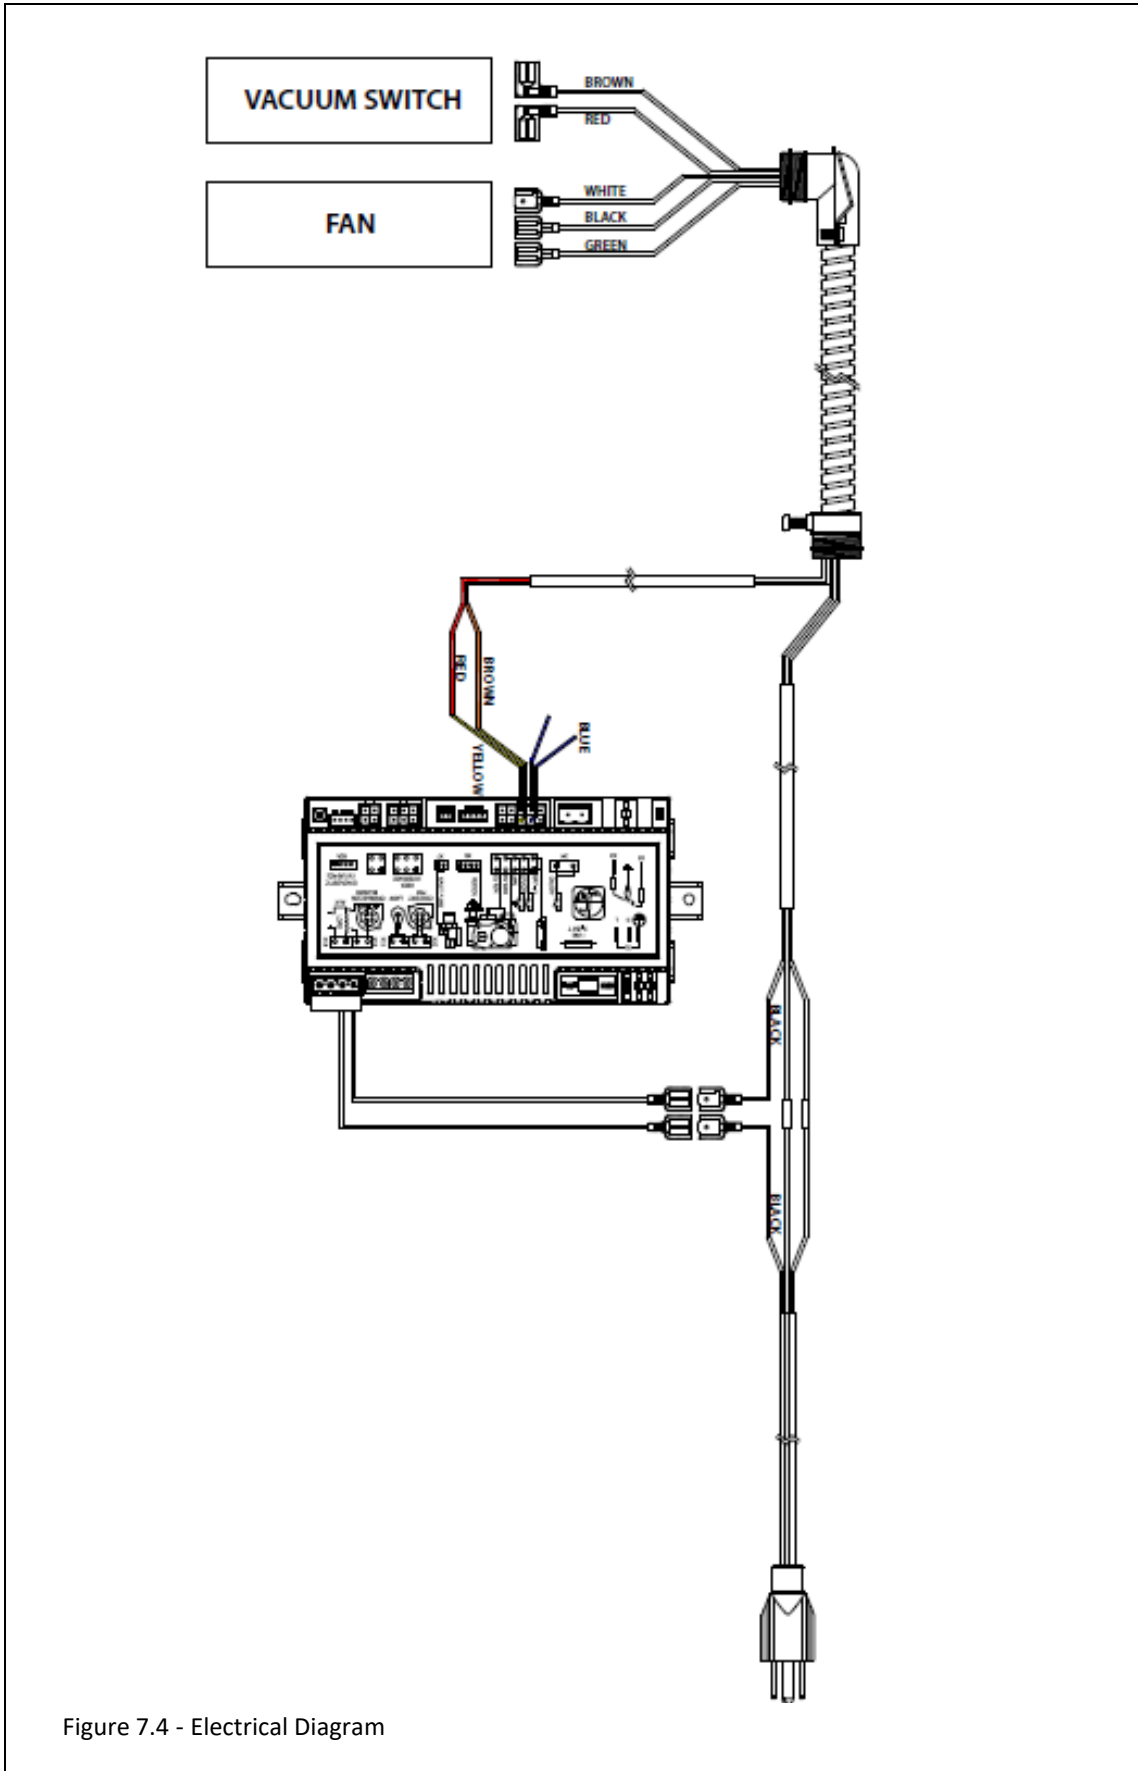

Figure 7.4 - Electrical Diagram
**NOTE: Use Figure 7.4 (pg. 21) as wiring schematic references when following the individual instructions below.**